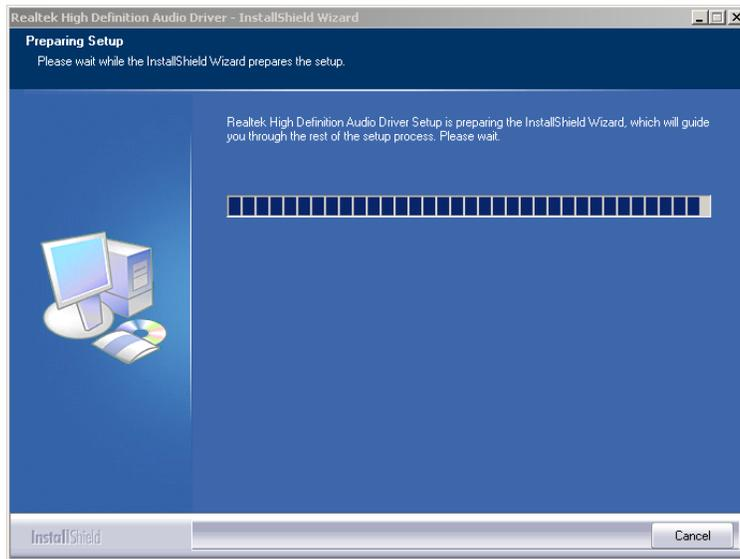

Figure 6-8: Preparing Setup Screen
Step 4: The **InstallShield Wizard** is prepared to guide the user through the rest of the process (**Figure 6-8**).